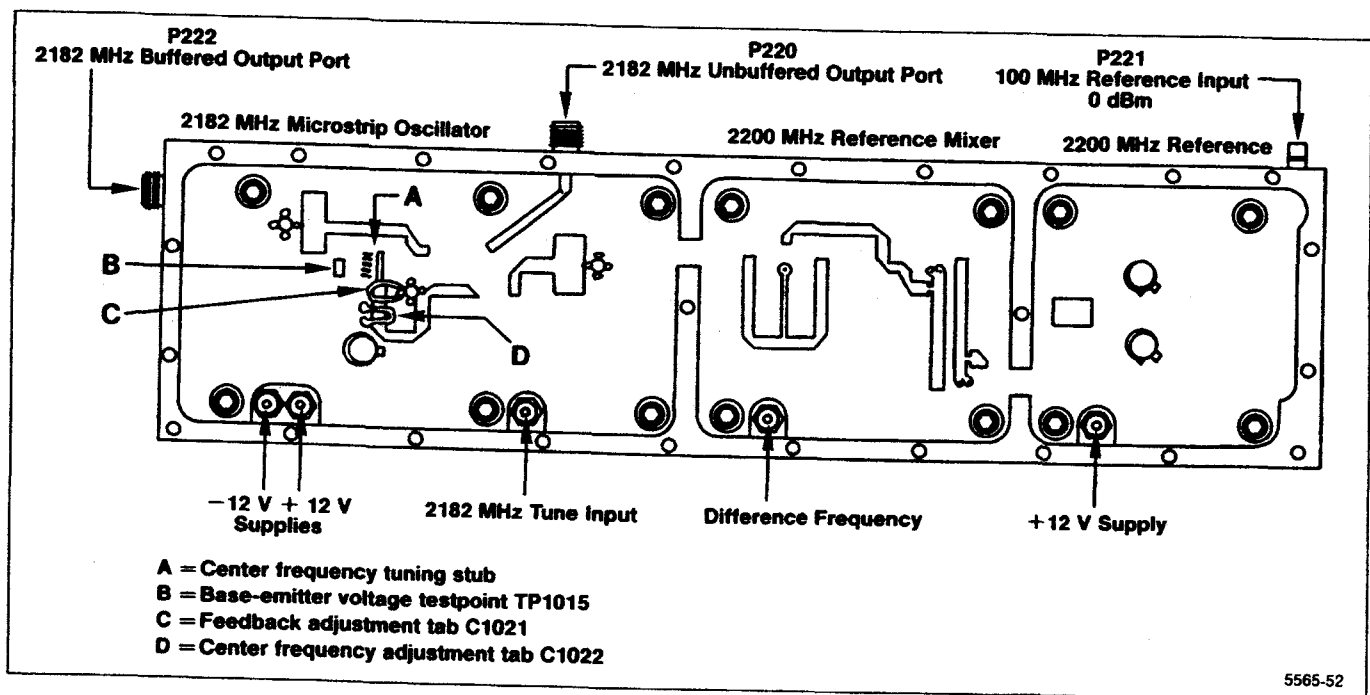

Figure 6-21. 2182 MHz 2nd LO adjustment and test point locations.
Install a 50  $\Omega$  terminator on the 2182 MHz buffered output port, P222, (see Figure 6-21).
e. Bend the feedback and frequency adjusting tabs, C1021 and C1022 (C and D in Figure 6-21) so they are approximately 30 degrees above the board surface.
h. Check Vbe at TP1015 (B in Figure 6-21). If Vbe is greater than +0.5 V, push the feedback adjustment tab down slightly and if less than -0.3 V, lift the tab. If Vbe is greater than +0.8 V, replace the microstrip oscillator board. If Vbe is more negative than -1 V, check the bias circuitry. Adjust the tab so Vbe is +0.15 V,  $\pm$ 0.05 V at TP1015. Do not touch the feedback tab while measuring voltages.
i. Check that the 2nd LO signal (frequency) is within one major division of the center graticule line (2.181 GHz to 2.183 GHz). Bend the frequency adjustment tab C1022 (D in Figure 6-21) to bring the oscillator within tolerance. (Bend the tab up to increase frequency and down to lower frequency.)
j. If unable to bring the oscillator frequency within range with the adjustment tab, the frequency of the 2182 MHz oscillator can be brought within range of the adjustment tab by shortening a transmission line stub (A in Figure 6-21). Graduation marks along the side of the stub provide a guide to calculate frequency correction. Each minor mark from the end or cut across the stub, represents an approximate change of 25 MHz.
b. Confirm that the output signal frequency is 18 MHz  $\pm$ 1 MHz. Adjust the tab C1022 (Figure 6-21) for the 2182 MHz Microstrip Oscillator, to bring the 18 MHz within the 1 MHz tolerance.
(1) Vary the voltage to the 2182 MHz tune line between 0 V and  $-12.5$  V and note the frequency change at C2204 (the output of the 2200 MHz Reference Mixer).
(2) The frequency should vary between 20 MHz and 35 MHz as the tune line voltage is varied between 0 V and  $-12.5$  V.